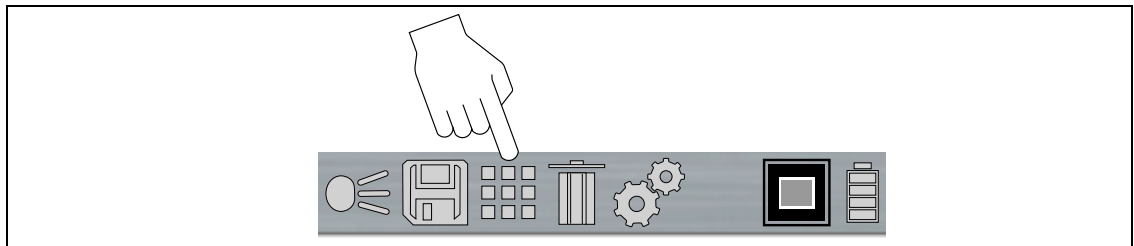

Figure 4-9
1. To view screenshot images, select the Gallery icon from the toolbar (Figure 4-9), then press the **Y** button.